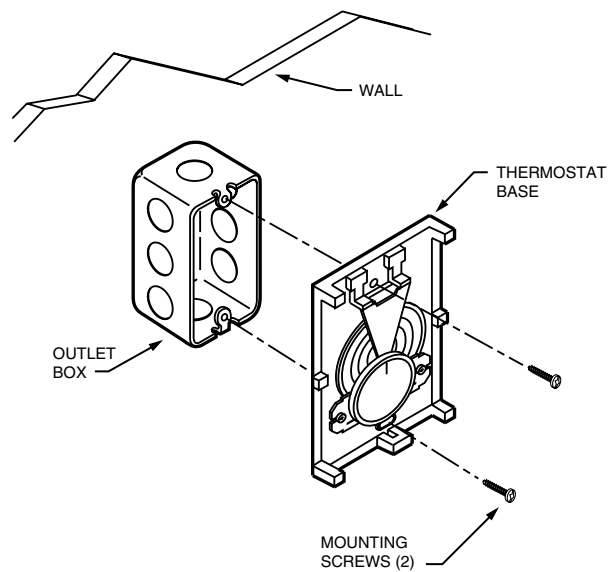

Fig. 4. Mounting thermostat to outlet box.
- 7 Mount the thermostat on the outlet box as shown in Fig. 4. Secure the thermostat by tightening the two mounting screws.
- 6 Mount the thermostat on the outlet box as shown in Fig. 4. Secure the thermostat by tightening the two mounting screws.